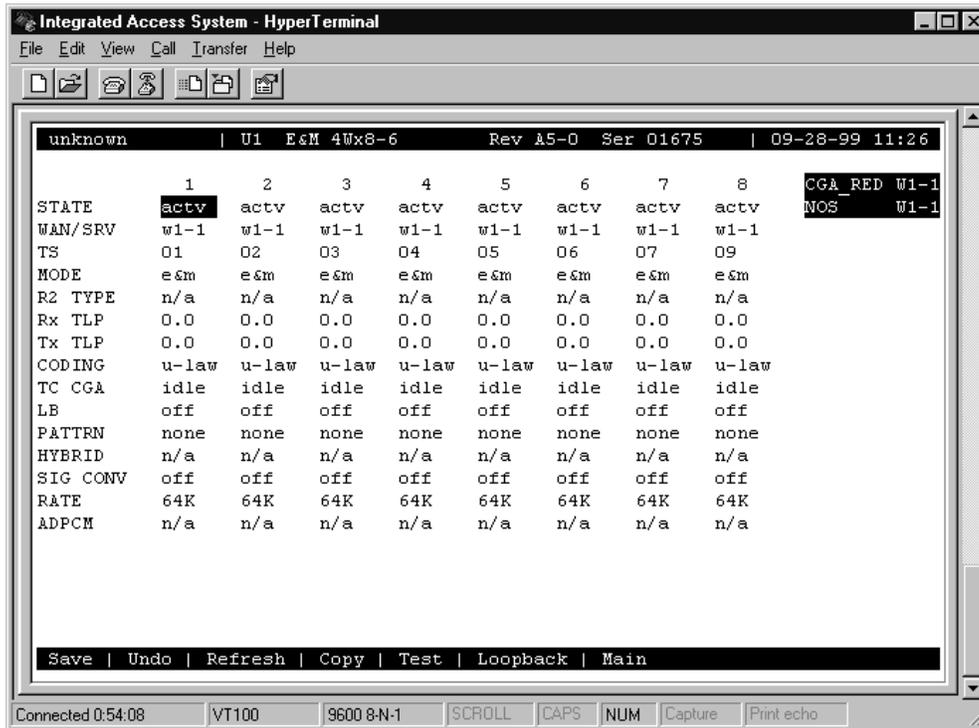

Figure 4-19. Typical E&M Card Time Slot Assignments
You can define a time slot map from any user card (data or voice) for connections involving that card, or from a WAN card for cross-connections involving only WAN cards. For example, Figure 4-19 shows the E&M Card Main Screen for the time slot assignments. Assign time slots to a voice card as follows:
2. Select the WAN port from which you want to assign time slots to the E&M card. In Figure 4-19, this is **W1-1** (for WAN 1, port 1).
3. Select a time slot (TS) for the first card port. A number appears at the bottom of the screen for the corresponding time slot on the WAN port.